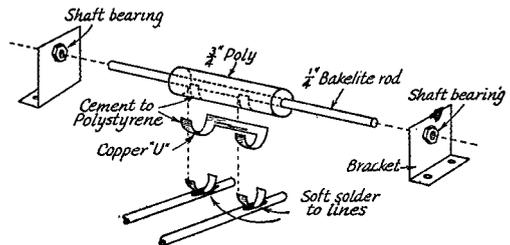

Fig. 2 — Constructional and assembly details of the tuning capacitor.
- C_1 — See text and Fig. 2.
The tuning condenser is of the split-stator type with the rotor floating. The stator plates consist of two strips of copper, $\frac{3}{16}$ inch wide by 1 inch long, formed in two arcs and soldered to the tuning rods (see Fig. 2). The rotor uses a piece of $\frac{3}{4}$ -inch diameter polystyrene rod through which is drilled a $\frac{1}{4}$ -inch diameter hole for a bakelite or polystyrene shaft. If desired, the solid polystyrene can be replaced by a $\frac{3}{4}$ -inch diameter coil form by cementing a disc of polystyrene to the open end of the coil form.